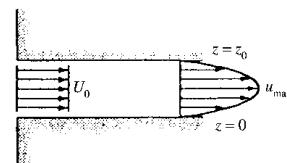

Fig. P3.17
**3.17** Incompressible steady flow in the inlet between parallel plates in Fig. P3.17 is uniform,  $u = U_o = 8 \text{ cm/s}$ , while downstream the flow develops into the parabolic laminar profile  $u = az(z_o - z)$ , where  $a$  is a constant. If  $z_o = 4 \text{ cm}$  and the fluid is SAE 30 oil at  $20^\circ\text{C}$ , what is the value of  $u_{max}$  in cm/s?